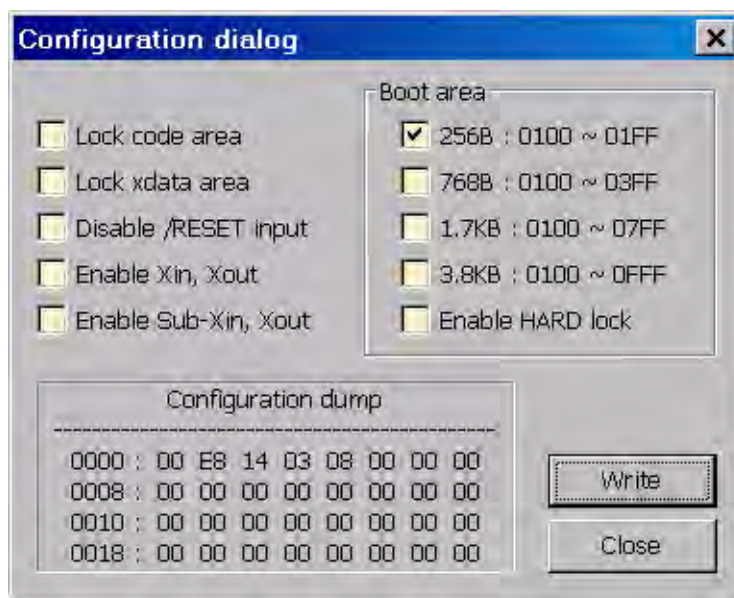

Figure 12. Configuration Dialog
7. Click the **Download** button to open the Configuration dialog box, shown in Figure 12.